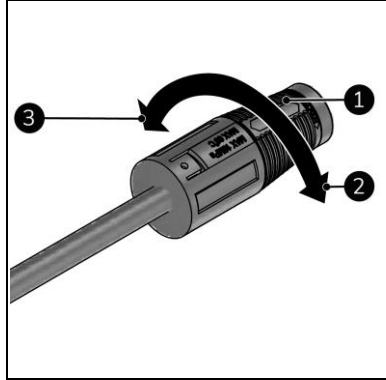

Figure 17
3. Rotate the head of the nozzle (Figure 17, pos. 1) to change the jet angle:
- for a smaller (more powerful jet) turn it clockwise (Figure 17, pos. 2).
- for a bigger (less powerful jet) turn it anti-clockwise (Figure 17, pos. 1).